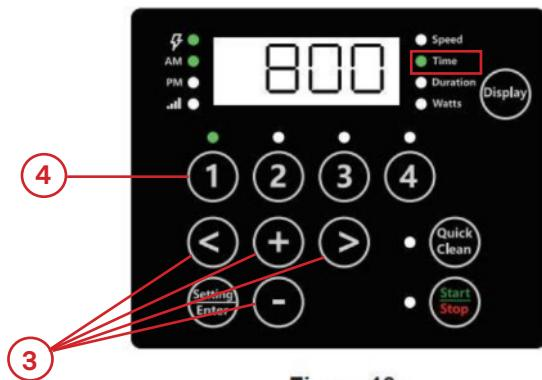

Figure 10
- 4) Press "1". The SPEED 1 start time will display. The "Time" parameter LED will begin to blink. **See Figure 10**